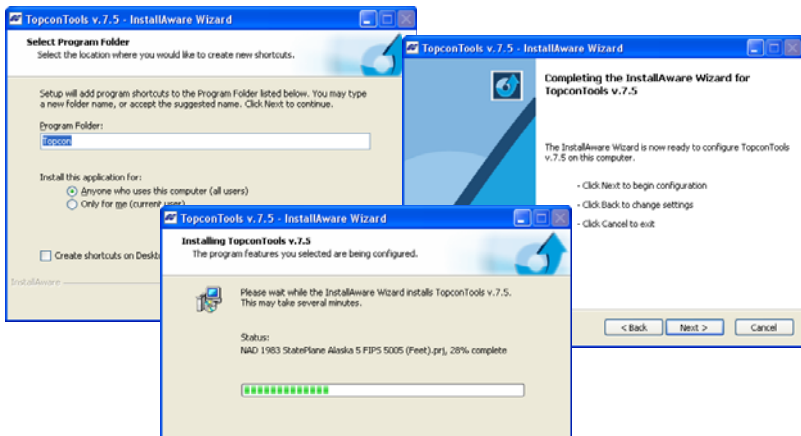

Figure 1-4. Select Program Folder and Installation Progress
4. If desired, type in a new folder in which to add program icons. For automatically creating Topcon Tools shortcut check the 'Create on Desktop' box. Then click **Next** (Figure 1-4).
5. Click **Next** to start the installation process (Figure 1-4)
6. Topcon Tools is installed on the computer (Figure 1-4)